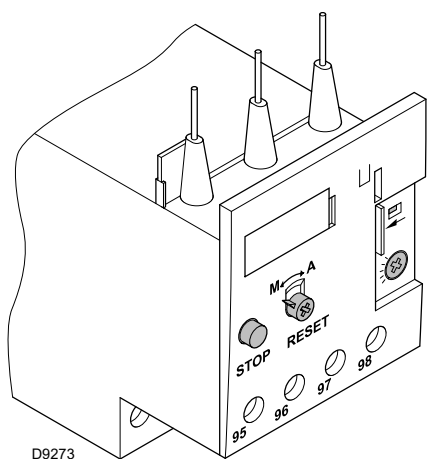

Fig. 29
The electro-mechanical thermal relay (Fig. 29) is used to avoid damage to the motor owing to a strong increase in absorption or the lack of a phase.
- To reset, in the case of an intervention of the thermal relay, press the button “RESET” (Fig. 29).
- The button “STOP” (Fig. 29) opens the NC (95-96) contact and stops the motor.